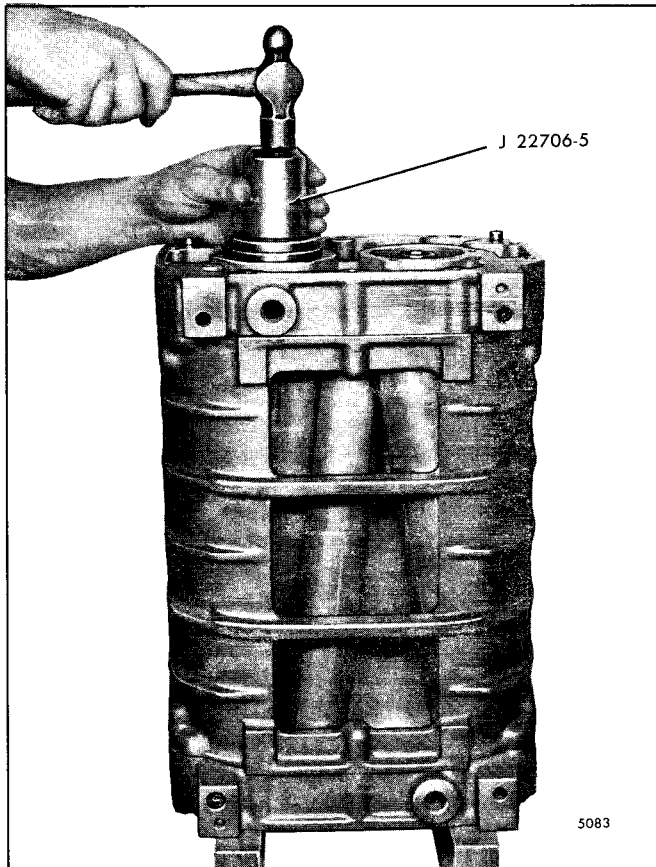

Fig. 19 - Installing Roller Bearings on Rotor Shafts and in Front End Plates using Tool J 22706-5
- a. Reverse the position of the blower housing on the two wood blocks (Fig. 19).
- c. Place installer J 22706-5 on top of the bearing and tap the bearing straight on the inner race and into the front end plate (Fig. 19).